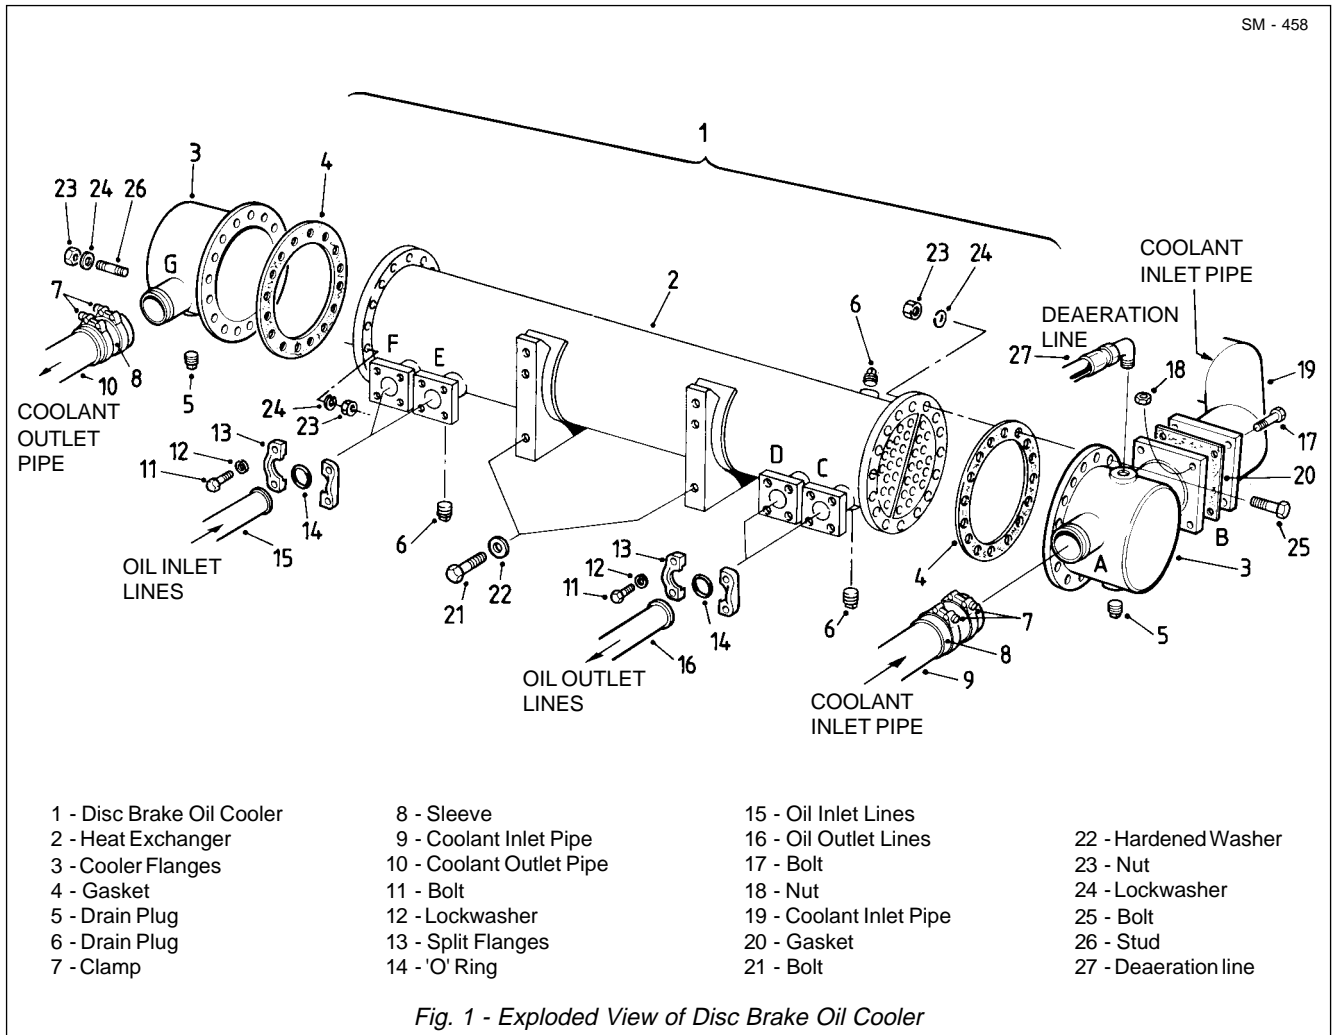

Fig. 1 - Exploded View of Disc Brake Oil Cooler
1. Remove bolts (3, Fig. 1) and washers (2, Fig. 1) securing shroud assembly (22, Fig. 1) and ring (18, Fig. 1) assembly to radiator assembly (25, Fig. 1).
2. Remove bolts (24, Fig. 1) and washers (23, Fig. 1) securing anti-recirculation plates (15, Fig. 1) to radiator assembly (25, Fig. 1). Remove anti-recirculation plates (15, Fig. 1) and rubber seals (14, Fig. 1) from radiator assembly (25, Fig. 1).
b. Carefully pull joule tube (22) clear of centre tank (2) and pull out from top tank (1).
- c. Remove and discard rubber ferrules (20) from tube plates (18 & 19).
4. Repeat procedure in step 3 to remove joule tubes (22) from centre tank (2) and bottom tank (3).
5. Replacement of joule tubes (22) and rubber ferrules (20) is as follows:
- a. Lightly coat outside diameter of new rubber ferrules (20) and tube holes in tube plates (18 & 19) with petroleum jelly.
- b. Press rubber ferrules (20) by hand into the tube holes in tube plates (18 & 19), taking care that the flange of each rubber ferrule (20) fits flush on the respective tube plate face. It may be necessary to lightly tap the top of rubber ferrule (20) flange with a hammer to ensure a flush fit.
- c. Lightly coat the bore of rubber ferrules (20) and each end of joule tube (22) with petroleum jelly.
- d. Enter the top (longer) end of joule tube (22) into rubber ferrule (20) in centre tube plate (19) and press upward until the short end of the tube is clear of rubber ferrule (20) flange in bottom tube plate (18).
- e. Carefully enter the bottom of joule tube (22) into rubber ferrule (20) in bottom tube plate (18) taking care that the tube does not damage rubber ferrule (20) by scoring. Press down firmly until the locating washer rests on the flange of rubber ferrule (20).
6. Repeat procedure in step 5 to assemble joule tubes (22) to top tank (1) and centre tank (2).
7. If removed, install rubber seals (14, Fig. 1) and anti-recirculation plates (15, Fig. 1) to the front of radiator assembly (25, Fig. 1). Secure anti-recirculation plates (15, Fig. 1) to radiator assembly (25, Fig. 1) with bolts (24, Fig. 1) and washers (23, Fig. 1).
8. Secure shroud (22, Fig. 1) and ring (18, Fig. 1) assembly to radiator assembly (25, Fig. 1) with washers (2, Fig. 1) and bolts (3, Fig. 1).
Numbers in parentheses refer to Fig. 1, unless otherwise specified.
2. Ensure drain plug (9, Fig. 1) is tightened securely and fill the cooling system through filler neck (27) on header tank (1). Fill with coolant until coolant reaches the bottom of filler neck (27) and holds at that level.
4. Start the engine and check for leaks. Tighten lines and fittings and top up coolant level as required. Window nut (4) should show full at all times. Fit filler cap (28).
Numbers and letters in parentheses refer to Fig. 1.
Numbers in parentheses refer to Fig. 1.